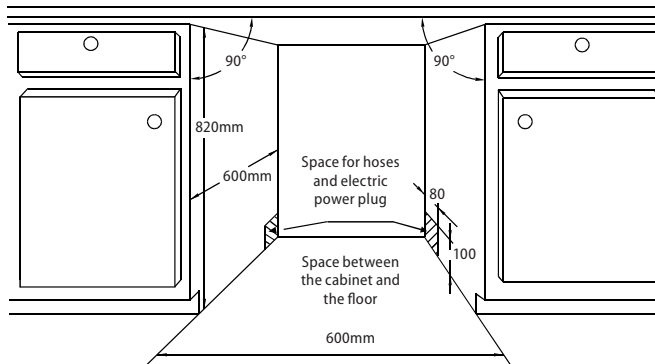

Fig. 13
- Dimensions for mounting the appliance are shown in Fig. 13.